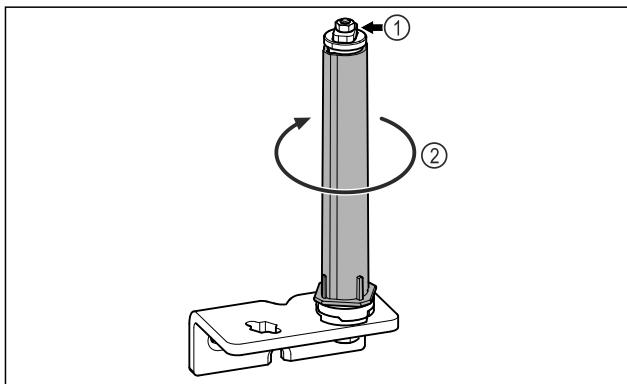

Fig. 14
- ▶ Do not dismantle the door locking system Fig. 14 (1).
- ▶ Turn the locking system Fig. 14 (2) until it clicks.